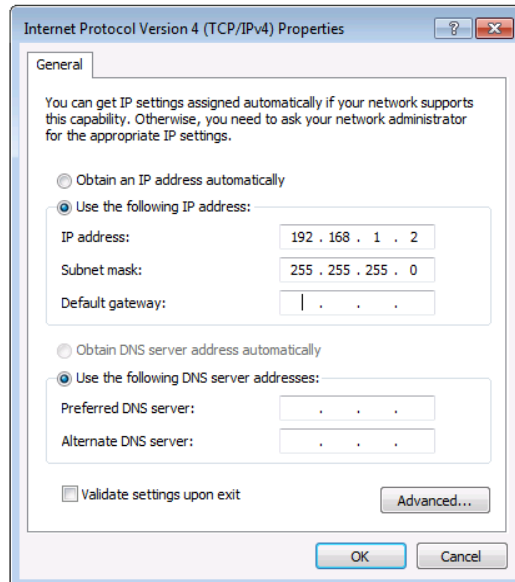

Figure 6: Internet Protocol Properties Window
- 6. Select **Use the following IP Address** for static IP addressing and fill in the details as shown in Figure 6.